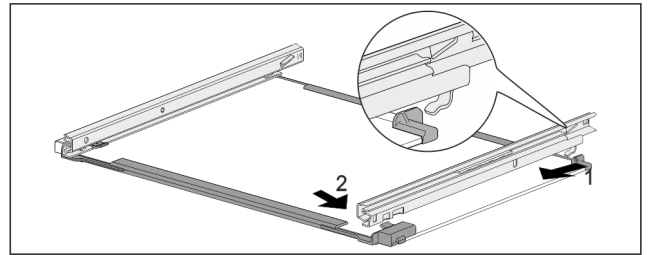

Fig. 195 Glass shelf with rails
- ▶ Hook in rail at the back. Fig. 195 (1)
- ▶ Hook in rail at the front. Fig. 195 (2)